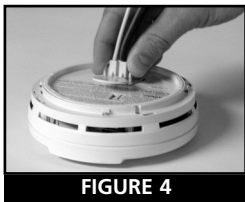

FIGURE 4
5. Plug the AC QUICK CONNECTOR into the back of the alarm (see figure 4), making sure that the locks on the connector snap into place. Then push the excess wire back into the electrical box through the hole in the center of the mounting bracket.